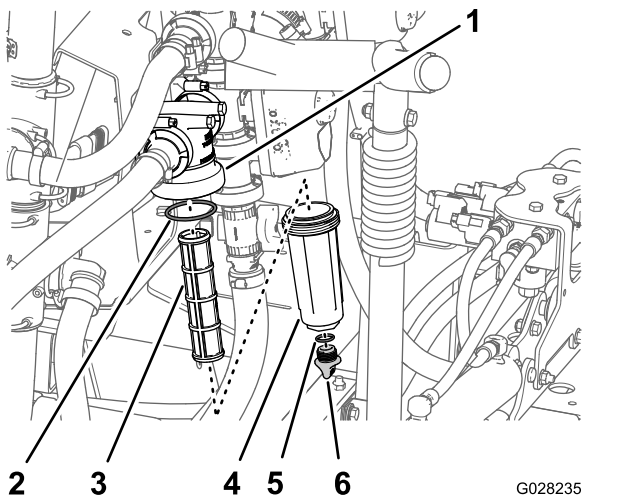

Figure 115
2. Align a drain pan under the pressure filter (Figure 115).
3. Rotate the drain plug counterclockwise and remove it from the bowl of the pressure filter (Figure 115).
4. Rotate the bowl counterclockwise and remove it from its filter head (Figure 115).
5. Remove the old pressure-filter element (Figure 115).
6. Check the O-ring for the drain plug (located inside the bowl) and the O-ring for the bowl (located inside the filter head) for damage and wear (Figure 115).
7. Install the new pressure-filter element into the filter head (Figure 115).
8. Install the bowl onto the filter head and tighten by hand (Figure 115).
9. Install the plug into the bowl and tighten by hand (Figure 115).